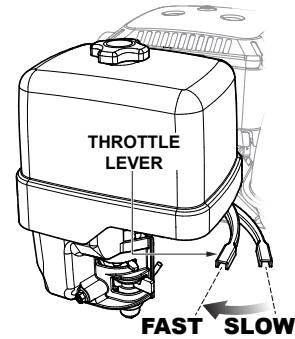

Figure 21. Throttle Lever
3. Move the throttle lever (Figure 21) away from the slow position, about 1/3 of the way toward the fast position.